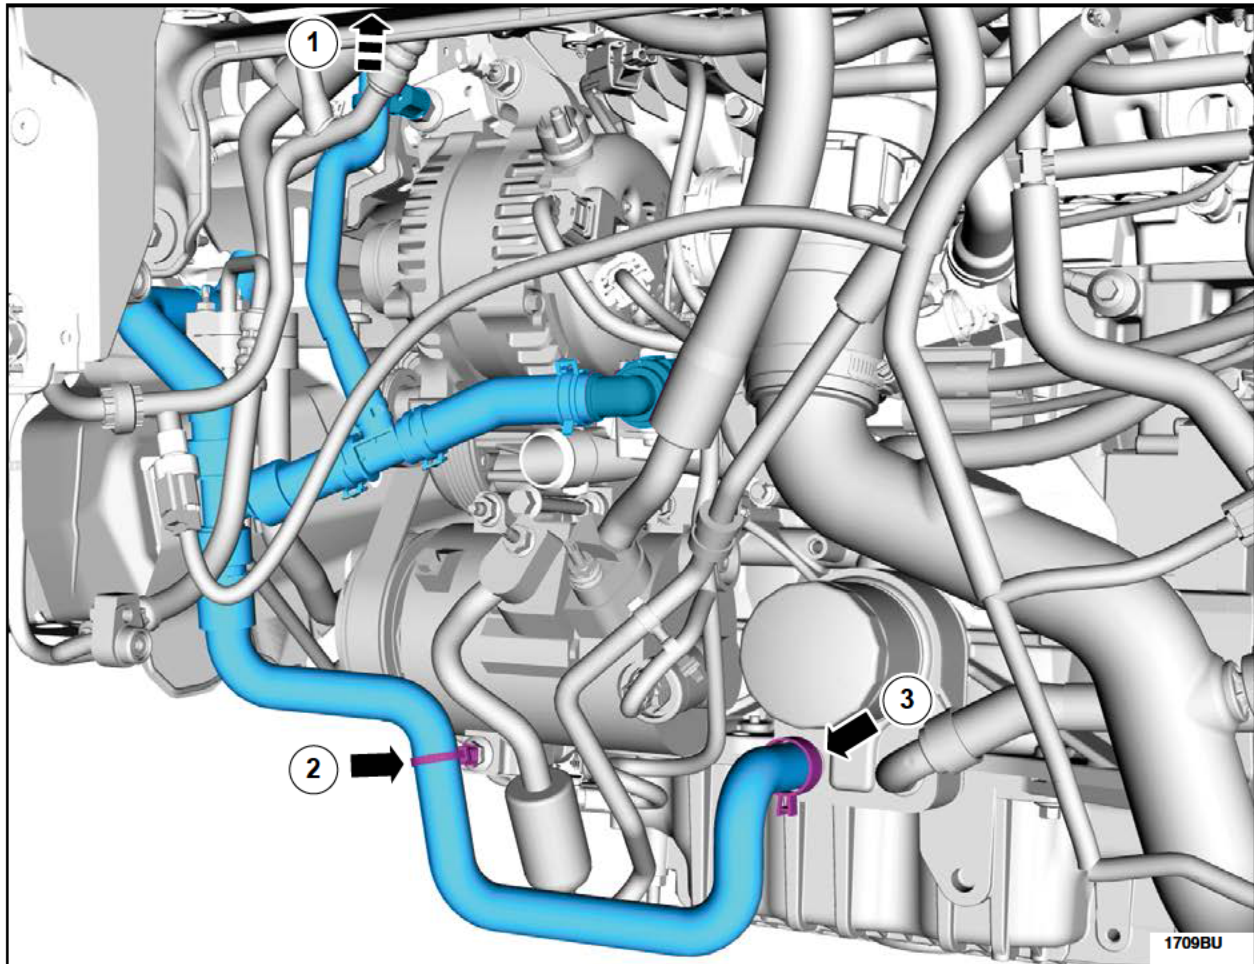

FIGURE I8
7. Install the *new* lower portion of the degas bottle hose. See Figure I8.